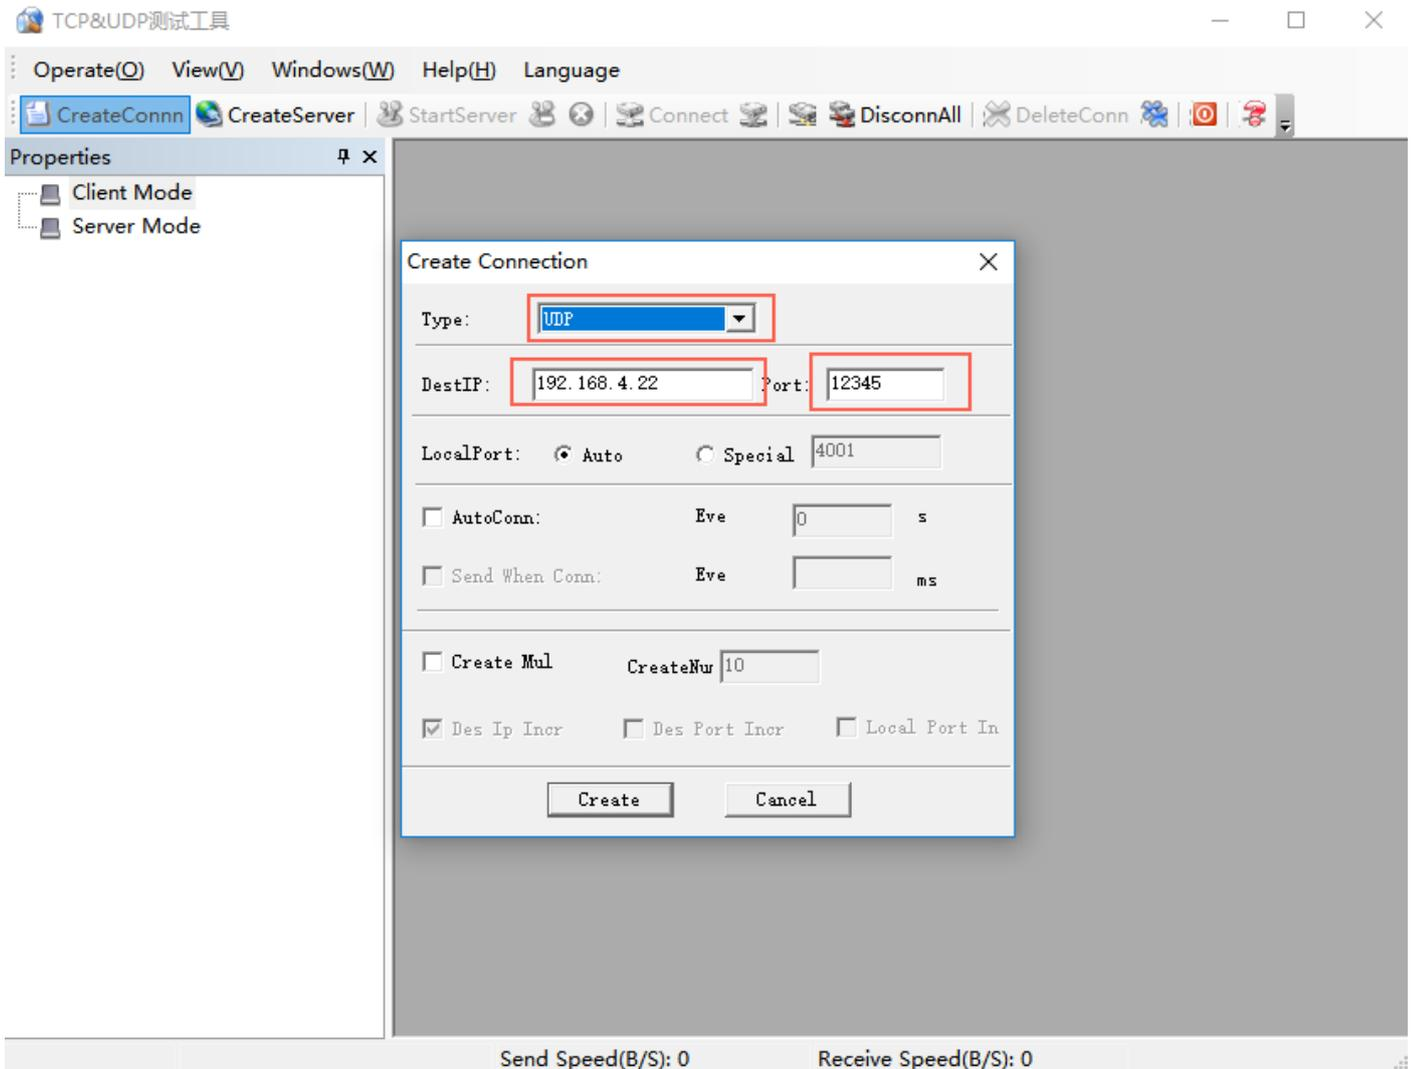

Figure 16 Connection settings
- (2) Open the network test tool as shown in Figure 16, Create connection -> select UDP, write the target IP (static IP address of the UDP server), write the port (local port of the UDP server) -> connecting , using the "Ebyte network configuration tool" "to monitor the transmitted data.